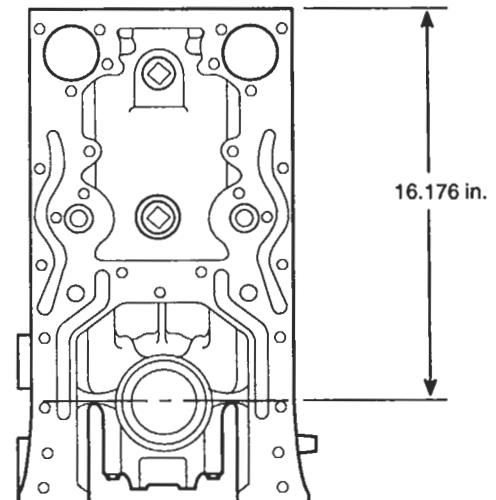

Figure 15. Minimum Distance from Center Line of Crankshaft to Top of Cylinder Block
- b. If it is necessary to machine the top surface of the block to correct for the above conditions, do not remove more than .008 inch of metal. Stamp the amount of stock removed on the face of the block. The distance from the centerline of the crankshaft to the top of the block must not be less than 16.176 inch (Figure 15.).